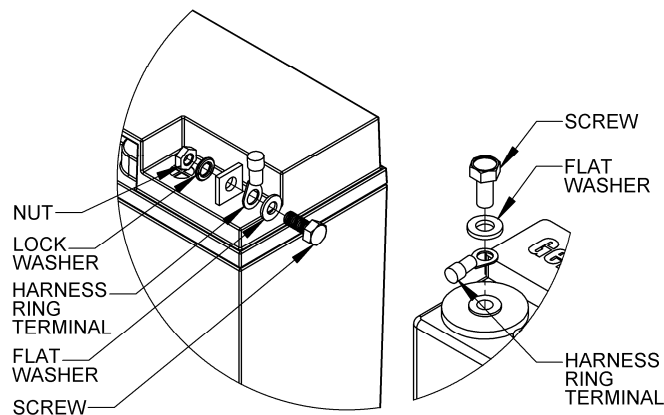

Figure 5-4: Connecting harnessing to the battery terminals
2. Connect the harness wiring to the battery terminals; see Figure 5-4 (the batteries will be one of the two terminal options shown):